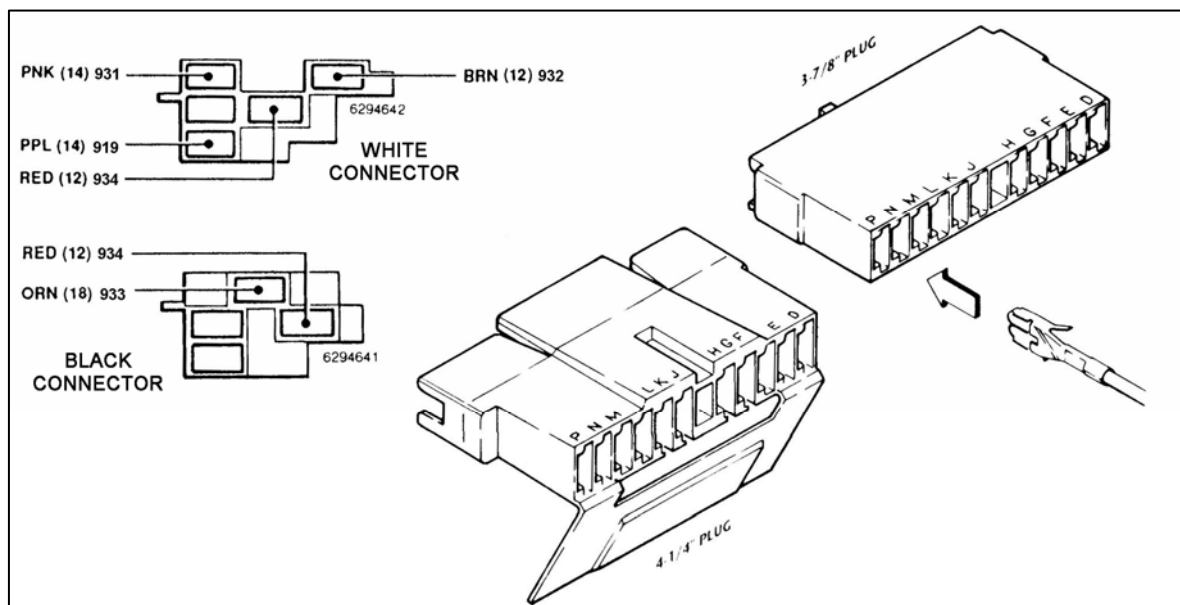

Figure 7-5 GM Turn Signal Connectors
7.4.1 There are two different plugs on most tilt columns. The difference is in the length of the male plug that is mounted ON THE COLUMN. One plug is 3-7/8" (3.875") long and the other is 4-1/4" (4.250"). This is only a difference of 3/8" (0.375"), so measure the plug carefully. The Wire Harness Kit has included two different female connectors to mate with the column-mounted plug. See **Figure 7-5** to determine which female connector is correct for your automobile.
The TURN SIGNAL SECTION wires may have already been terminated for you. If not, cut wires to length and install the terminals provided. Choose the proper plug and install the terminals according to **Table 7-1**, as shown in **Figure 7-5**. The GM wire color codes have been included for reference. **Note:** The terminals will only insert into the connector ONE WAY, as shown in **Figure 7-5**. Make certain you are inserting the wire into the CORRECT LOCATION as the terminals are difficult if not impossible to remove once inserted.
- 7.4.2 The Steering Column Wiring comes with GM ignition switch connectors pre-wired. See **Table 7-1** and **Figure 7-5** for color codes, wire numbers, and wire designations for the Ignition Switch Connectors.